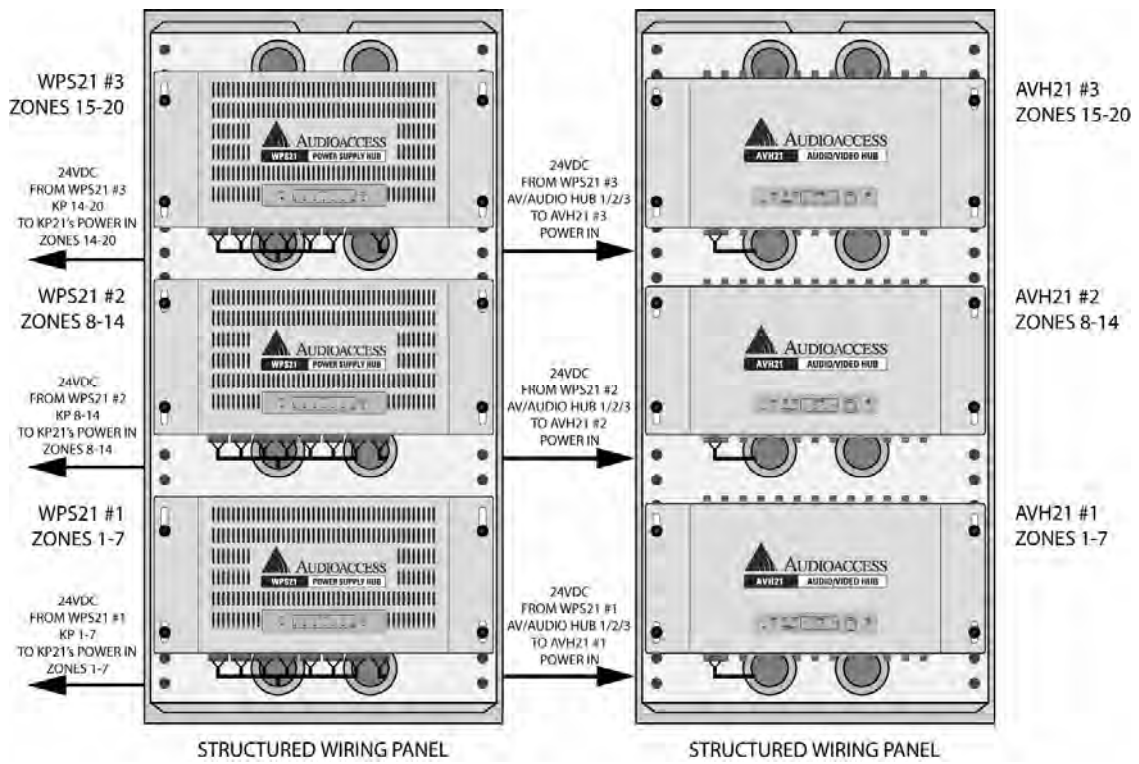

Figure 90 Multiple Hub Power Connections
3. Connect the plug-in connectors to the **Power In Terminal [pentagon 9]** on the AVH21 and to the **AV/Audio Hub 1/2/3 Terminal [rectangle 5]** on the WPS21 to power the AVH21 and associated KP21 Keypads as shown in **Figure 90**.